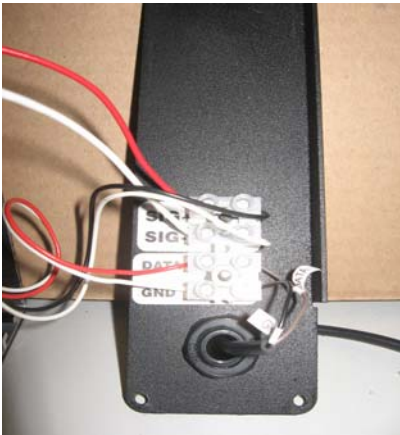

Figure 3
2. Open the endplate on the left side to access the terminal block (see figure 3).